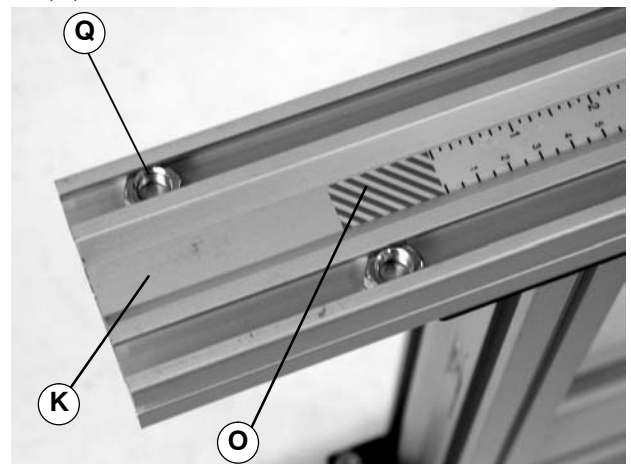

Figure 7
7. On the end with red warning area (O of Figure 7) install one (1) hex nut (Q of Figure 7) into each outside stand leg (K) t-slot.